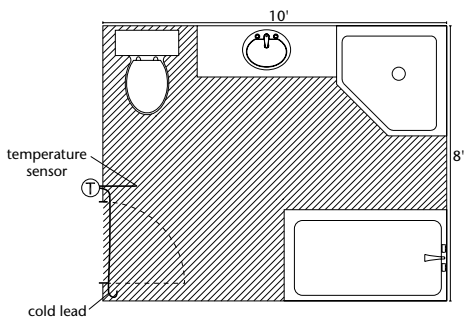

Figure 1
- Identify all stationary elements (toilet, bath, shower, counters, dressers, and permanent furnishings) and never install the heating cable under these stationary elements (Figure 1);